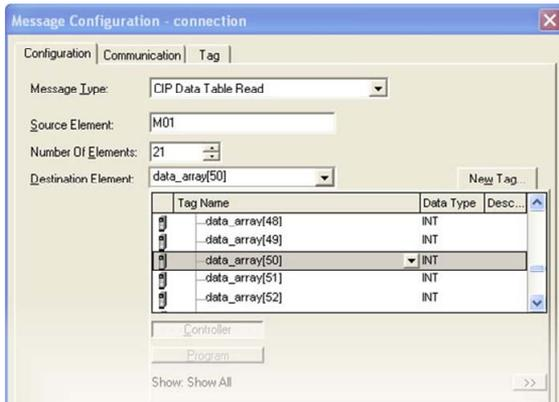

Figure 89: Selecting the Destination Element
- iv) For the Destination Element, either directly type in "data_array[50]", or select element #50 in the data_array tag via the drop-down box (refer to Figure 89). The destination could be any offset in the data_array tag, as long as the offset plus the Number Of Elements (21) does not exceed the tag's defined size (73).